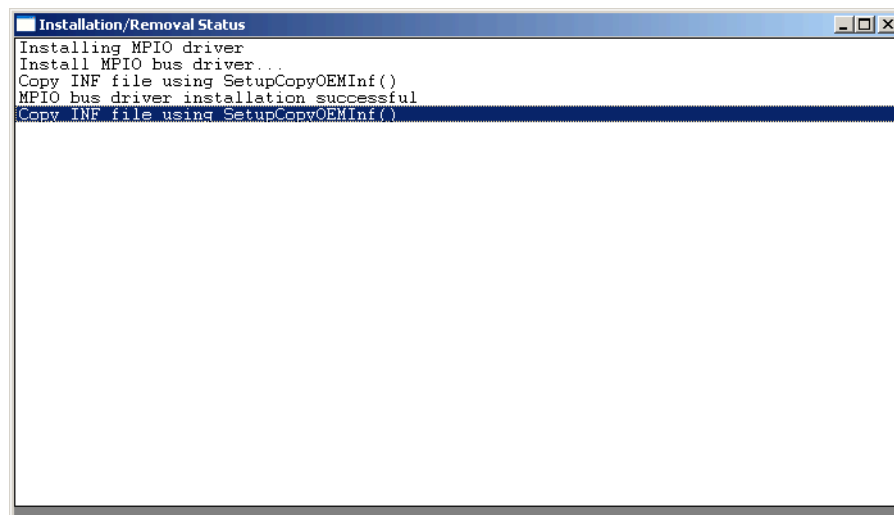

Figure 23-10 Installation progress
9. The files will be copied to the system; you can monitor the progress as shown in Figure 23-10.